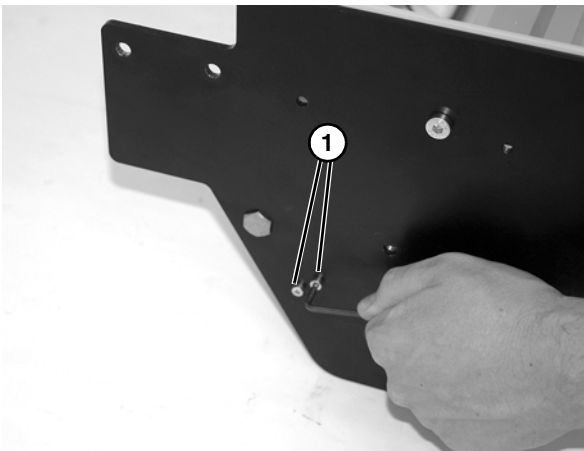

Figure 49
8. Remove two socket head screws (**Figure 49, item 1**) on both sides of the conveyor.